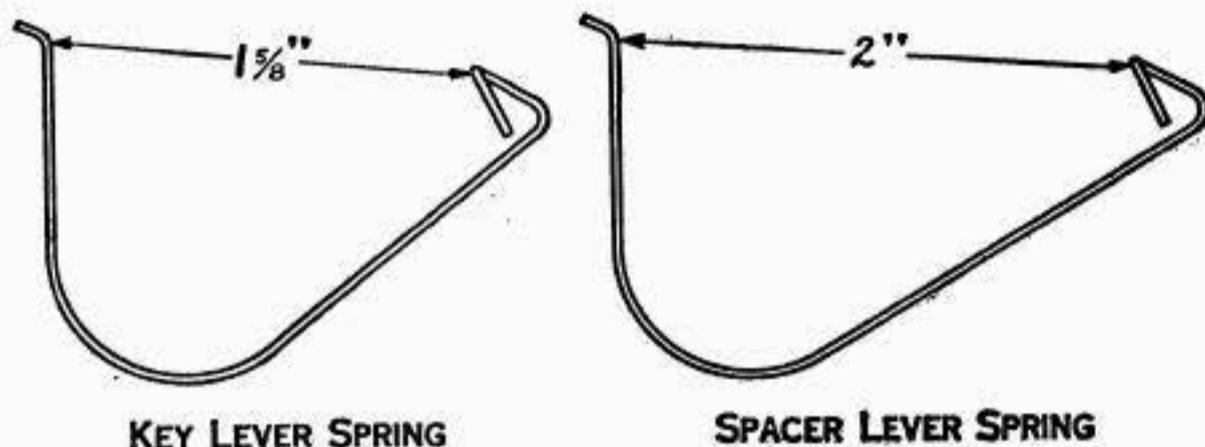

Fig. 2
3.04 The opening between ends of all **keylever springs** excepting spacer-keylever spring should measure $1\frac{5}{8}$ ". The **spacer-keylever spring** should measure 2". **Fig. 2**